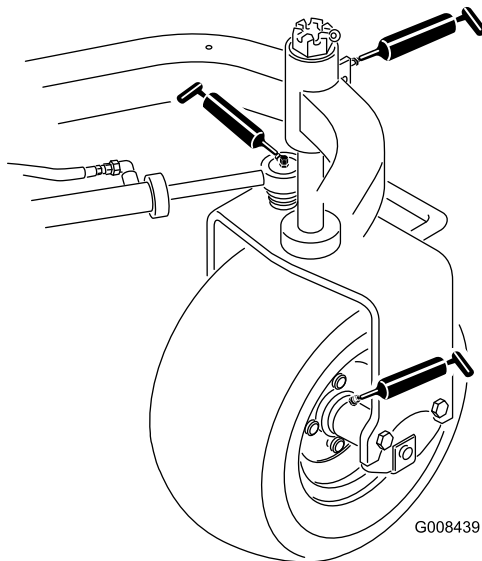

Figure 41
- Rear wheel hub (1) (Figure 41)
- Castor bearing (1) (Figure 41)
- Steering cylinder (2) (Figure 41)